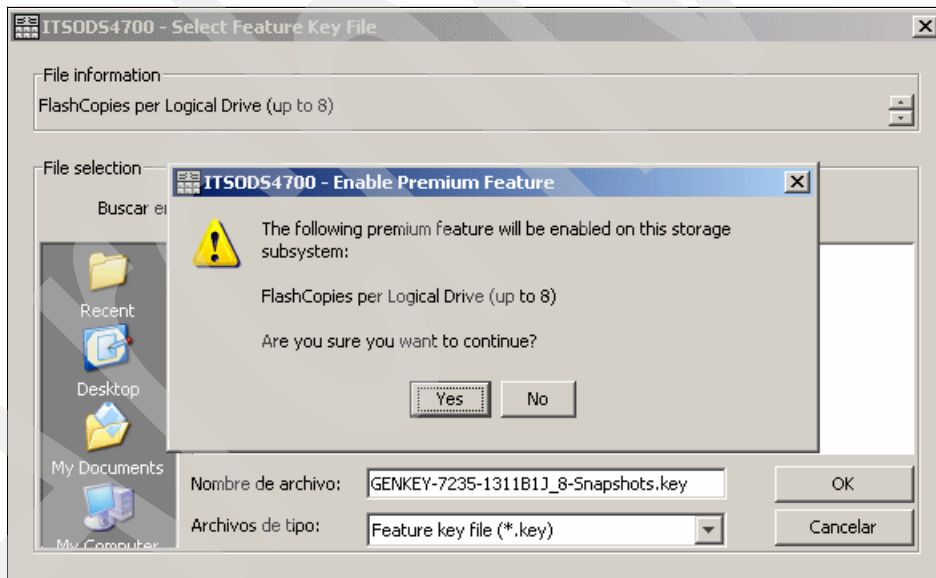

Figure 9-22 Enabling a premium feature
- In the dialog window, point to the location where the key file is stored. You must confirm whether to enable the premium feature selected (as shown in Figure 9-22).